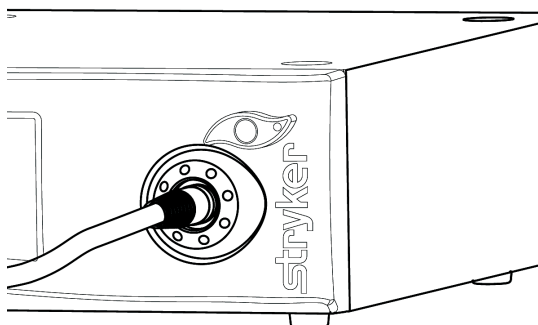

Figure 4 Inserting the light cable into the cable port
2. Insert a clean, dry fiberoptic cable into the cable port until the jaw latch releases and the jaw clamps the cable in place (see Figure 4). Pull gently on the fiberoptic cable to test that it is securely seated in the cable port.